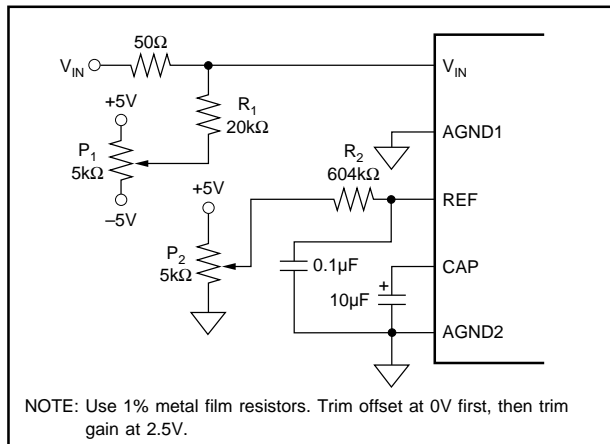
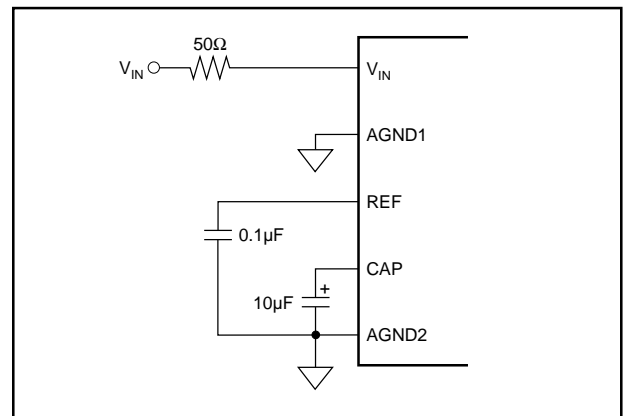
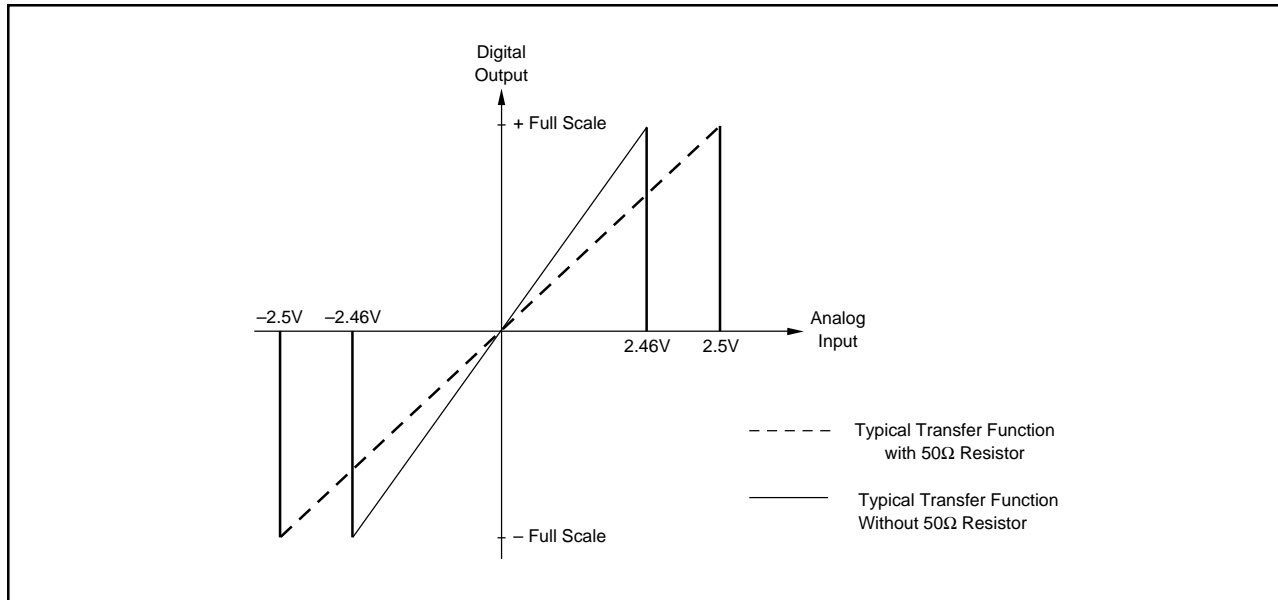

FIGURE 4a. Circuit Diagram With External Hardware Trim.
FIGURE 4b. Circuit Diagram Without External Hardware Trim.
FIGURE 5. Circuit Diagram With and Without External Resistors.
T = +25°C,  $f_s = 800\text{kHz}$ ,  $V_{\text{DIG}} = +V_{\text{ANA}} = +5\text{V}$ ,  $-V_{\text{ANA}} = -5\text{V}$ , using internal reference and the input  $50\Omega$  resistors as shown in Figure 4b, unless otherwise specified.
T = +25°C,  $f_s = 800\text{kHz}$ ,  $+V_{DIG} = +V_{ANA} = +5\text{V}$ ,  $-V_{ANA} = -5\text{V}$ , using internal reference and the 50Ω input resistors as shown in Figure 4b, unless otherwise specified.
The ADS7819 has a  $\pm 2.5V$  input range. Figures 4a and 4b show the necessary circuit connections for the ADS7819 with and without external hardware trim. Offset and full scale error(1) specifications are tested and guaranteed with the 50 $\Omega$  resistor shown in Figure 4b. This external resistor makes it possible to trim the offset  $\pm 12mV$  using a trim pot or trim DAC. This resistor may be left out if the offset and gain errors will be corrected in software or if they are negligible in regards to the particular application. See the **Calibration** section of the data sheet for details.
To calibrate the offset and gain of the ADS7819, install the proper resistors and potentiometers as shown in Figure 4a. The calibration range is  $\pm 12\text{mV}$  for bipolar zero and  $\pm 30\text{mV}$  for full scale.
See Figure 4b for circuit connections. Note that the actual voltage dropped across the  $50\Omega$  resistor is nearly two orders of magnitude lower than the voltage dropped across the internal resistor divider network. This should be taken into consideration when choosing the accuracy and drift specifications of the external resistors. In most applications, 1% metal-film resistors will be sufficient.
The external  $50\Omega$  resistor shown in Figure 4b may not be necessary in some applications. This resistor provides trim capability for the offset and compensates for a slight gain adjustment internal to the ADS7819. Not using the  $50\Omega$  resistor will cause a small gain error but will have no effect on the inherent offset error. Figure 5 shows typical transfer function characteristics with and without the  $50\Omega$  resistor in the circuit.